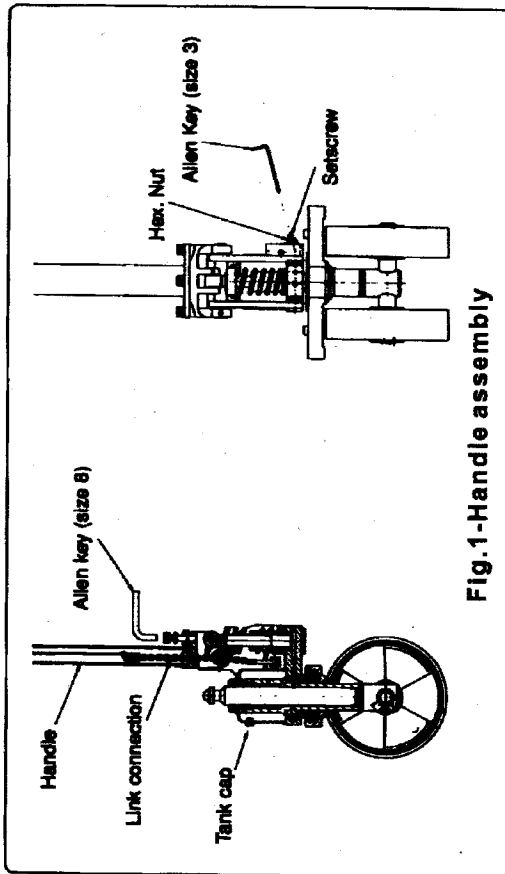
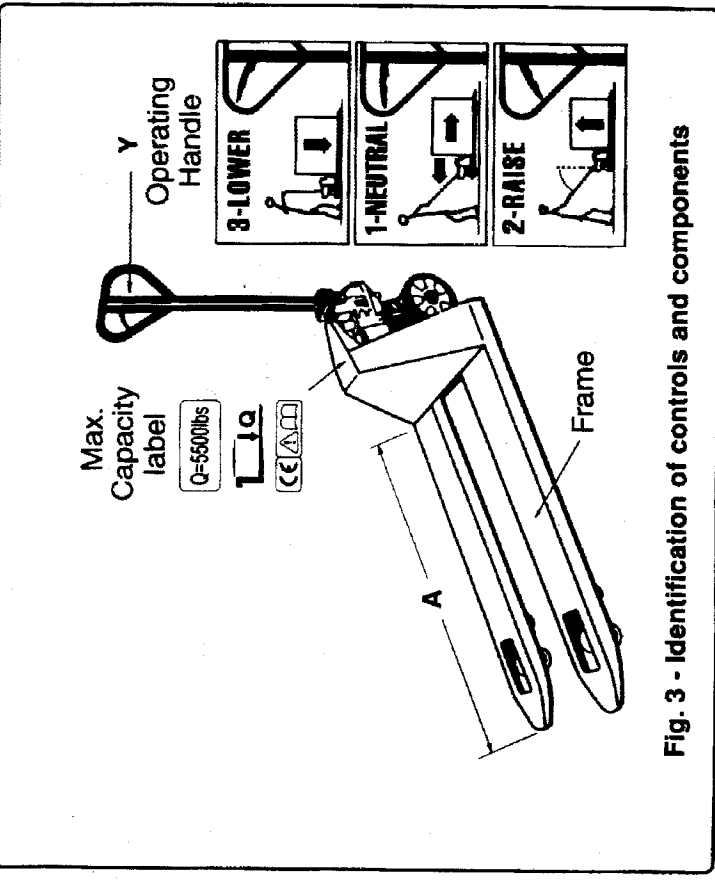

Fig. 1-Handle assembly
Fig. 3 - Identification of controls and components
All trucks are shipped in a cardboard container with the operating handle secured to the frame. Remove the unit from its shipping container, then cut the banding to remove the operating handle. Inspect all components for shipping damage (refer to Fig. 3). Report shipping damage as directed in the shipping documents.
2.1 Assembly of the handle (see Fig. 1)
3 Operation (see Fig. 1)
3.2 Functions and operation (Up/Down/Neutral, see Fig. 3)
- Up:** Switch the control lever to the "RAISE" position, by pushing the lever away from you, (Fig. 3-Y2) and make several pumping actions with the handle.
- Down:** Switch the control lever to the "LOWER" position, by pushing the lever toward you, (Fig. 3-Y3), until the forks have lowered to the desired position.
- Neutral:** To transport a load the control lever must be in the centre "NEUTRAL" position (Fig. 3-Y1).
Switch the control lever to the raised position by pushing the lever away from you, (Fig. 3-Y2) and make several pumping actions with the handle until the forks are fully raised. Switch the control lever to the "Neutral" middle position (Fig. 3-Y1). Loosen the hex. nut, see Fig. 1. Slowly turn the setscrew in a clockwise direction until the forks just start to lower. Now turn the setscrew 1-1/2 turns counter-clockwise
4.2.2 Oil level (See Fig.1)